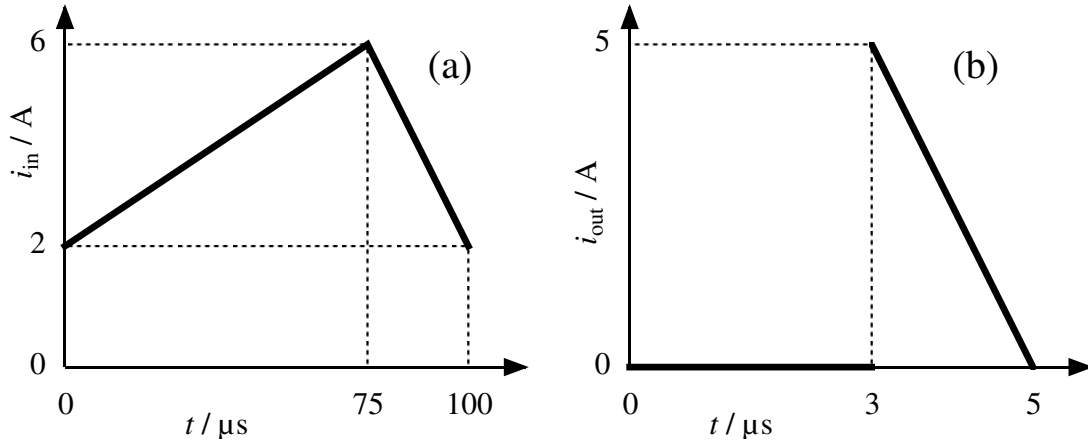

Figure 18. Currents measured in two boost DC–DC converters.
- 6.5 Figure 18 shows a single cycle of either the input current $i_{in}(t)$ or the output current $i_{out}(t)$ measured for two boost regulators, each of which has an input at $V_{in} = 10$ V. For each of these calculate the duty factor D , output voltage V_{out} , average output current I_{out} , average input current I_{in} , power P supplied and the value of the inductance L in the converter. Assume ideal components and operation. Remember that the input current is the same as the inductor current for a boost converter.